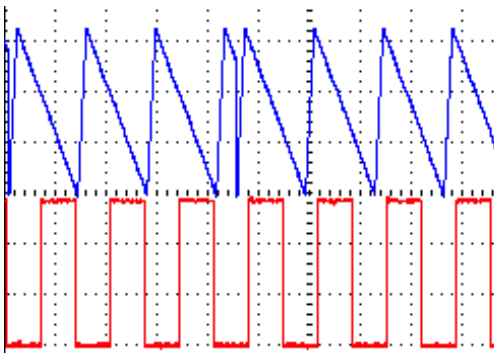

Figure 13a: Async mode (re-triggering)
- Using Async triggers to change the "async reset point": Try this patch: supply a Ping clock that's about 1 pulse per second. Use the same clock to make a sound with some other module, using this as a metronome/reference. For simplicity, turn Div/mult to "=" and Skew to about a sharp rise (maybe 90%). Turn cycle mode on. Hit a trigger into Async about half a second after a ping. The envelope will restart when it receives the trigger and will continue to cycle, always starting half a second after each ping. This is your "async reset point": half a second after the ping. Hit another trigger just a moment before the ping. Now the the envelope will always be starting just a moment before each metronome pulse. Keep playing with it till it makes sense, this is an advanced but very useful technique. See *Figure 13a*